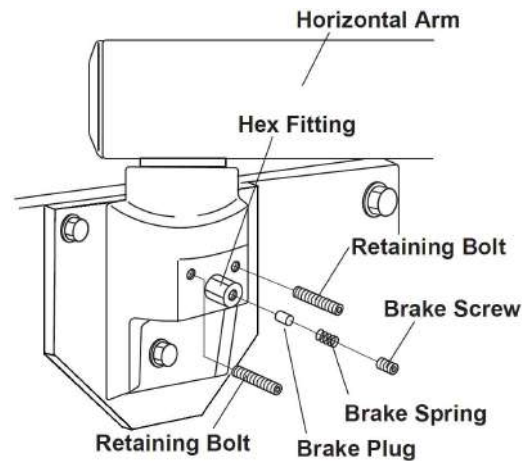

Fig.3-4 Horizontal Arm
2. Insert two retaining bolts into the upper threaded holes of the arm mounting bracket and tighten securely with a Allen wrench. (**Fig.3-4**)
DO NOT FULLY TIGHTEN. (Fig.3-4)